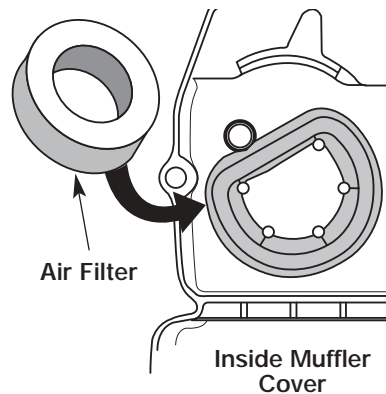

FIGURE 22
2. Remove the air filter from behind the air filter/muffler cover, Figure 22.
6. Replace the air filter in the air filter/muffler cover, Figure 22.